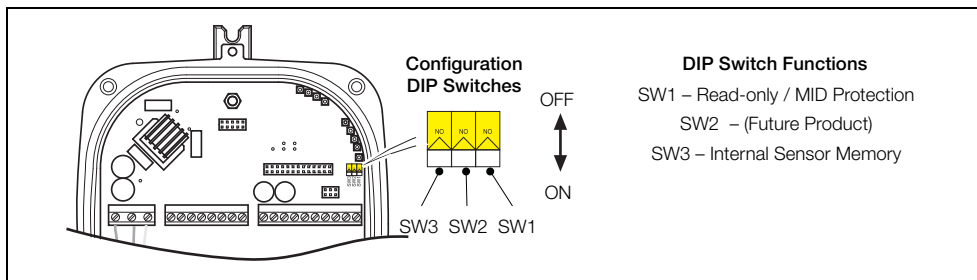

Fig. 4.20 Configuration DIP Switches
4. For high integrity / security installations, set DIP switch SW1 to the 'ON' (Read-only) position – see Fig. 4.20, page 28.
5. Align the transmitter cover with the housing and tighten the four cover screws (C) carefully.
6. For high integrity / security installations or where MID is required, fit anti-tamper seals to the security fixtures (D).
**Note.** If this screen is displayed on an integral transmitter, check that DIP switch SW3 is in the 'ON' position (refer to Fig. 4.20, page 28).
To correct this condition, set DIP switch SW3 to the 'OFF' position (refer to Fig. 4.20, page 28).